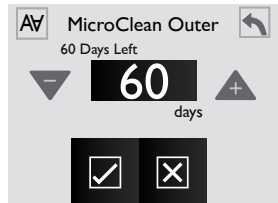

Figure 12.6g
1. From the “Water Care” Menu you can to set the MicroClean Outer timer, Figure 12.6g.